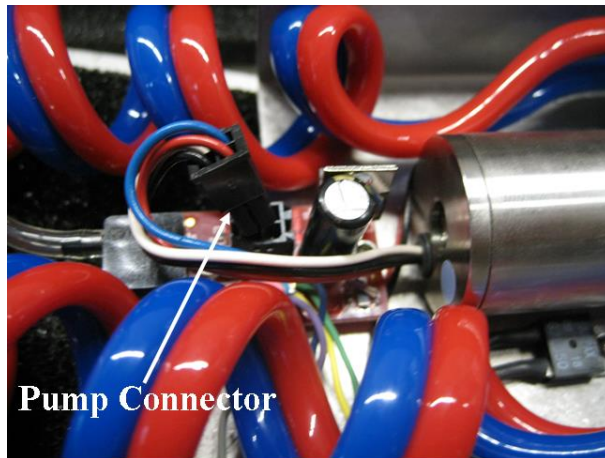

FIGURE H-8. Location of pump connector in CPEC200 pump electronics
8. Remove pump connector from the pump electronics (FIGURE H-8).
3. Reattach the pump connector to the pump electronics (FIGURE H-8).